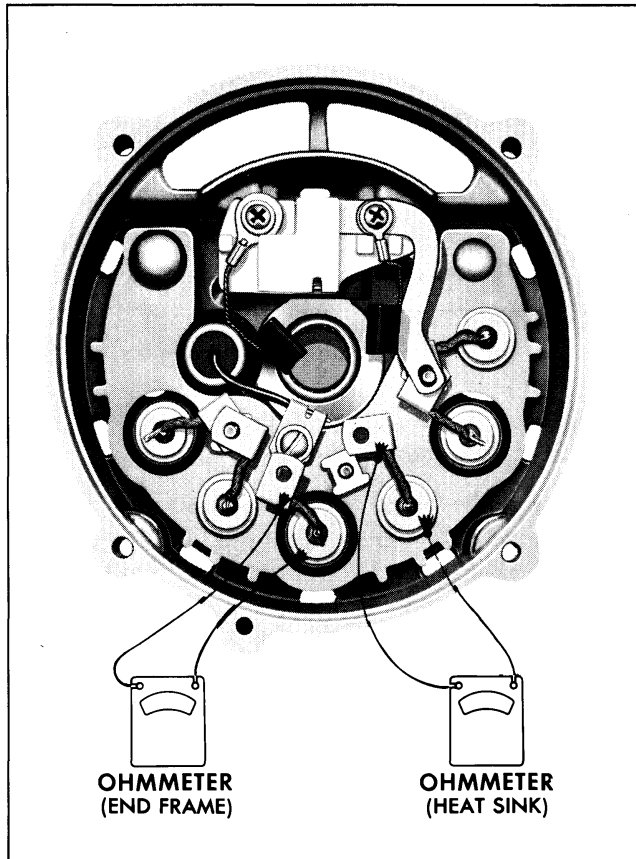

Fig. 11-20 Checking Diodes
1. With the stator disconnected, check a diode in the heat sink by connecting one of the ohmmeter leads to the heat sink, and the other ohmmeter lead to the diode lead and note reading, (see Fig. 11-20).
1. To check a diode mounted in the end frame, connect one of the ohmmeter leads to the end frame and the other ohmmeter lead to the diode lead and note reading (see Fig. 11-20).